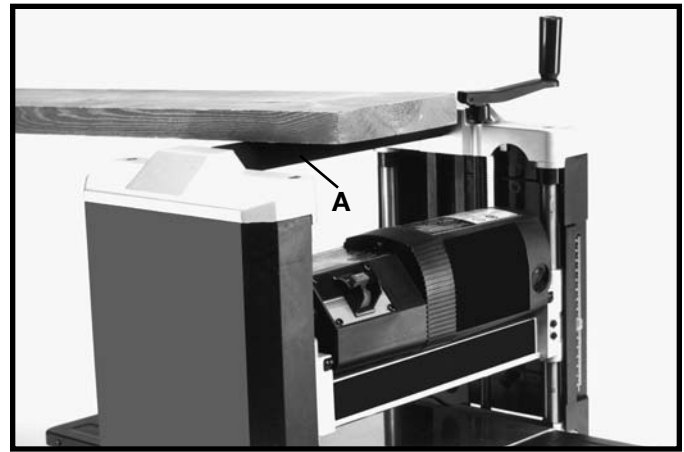

Fig. 23
2. The carrying handle (A) Fig. 23, also doubles as a stock transfer bar for transferring stock from the outfeed to infeed end of the machine. This is helpful when planing long material, as the workpiece can easily be transferred back to the infeed end of the machine for additional cuts.